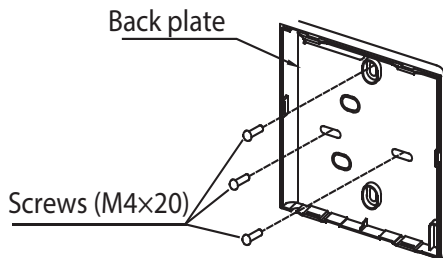

Fig. 6 — Fasten Back Plate
1. For surface mounting, fasten the back plate on the wall with the 3 screws (M4x20) and plugs (see Fig. 6).
2. For switch box mounting, fasten the back plate on the switch box with 2 screws (M4x25) and fasten it on the wall with 1 screw (M4x20) (see Fig. 6).